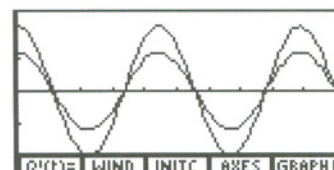

Figure 7.21
3. Plot with axes $x=t$ and $y=Q3$. (Figure 7.21)